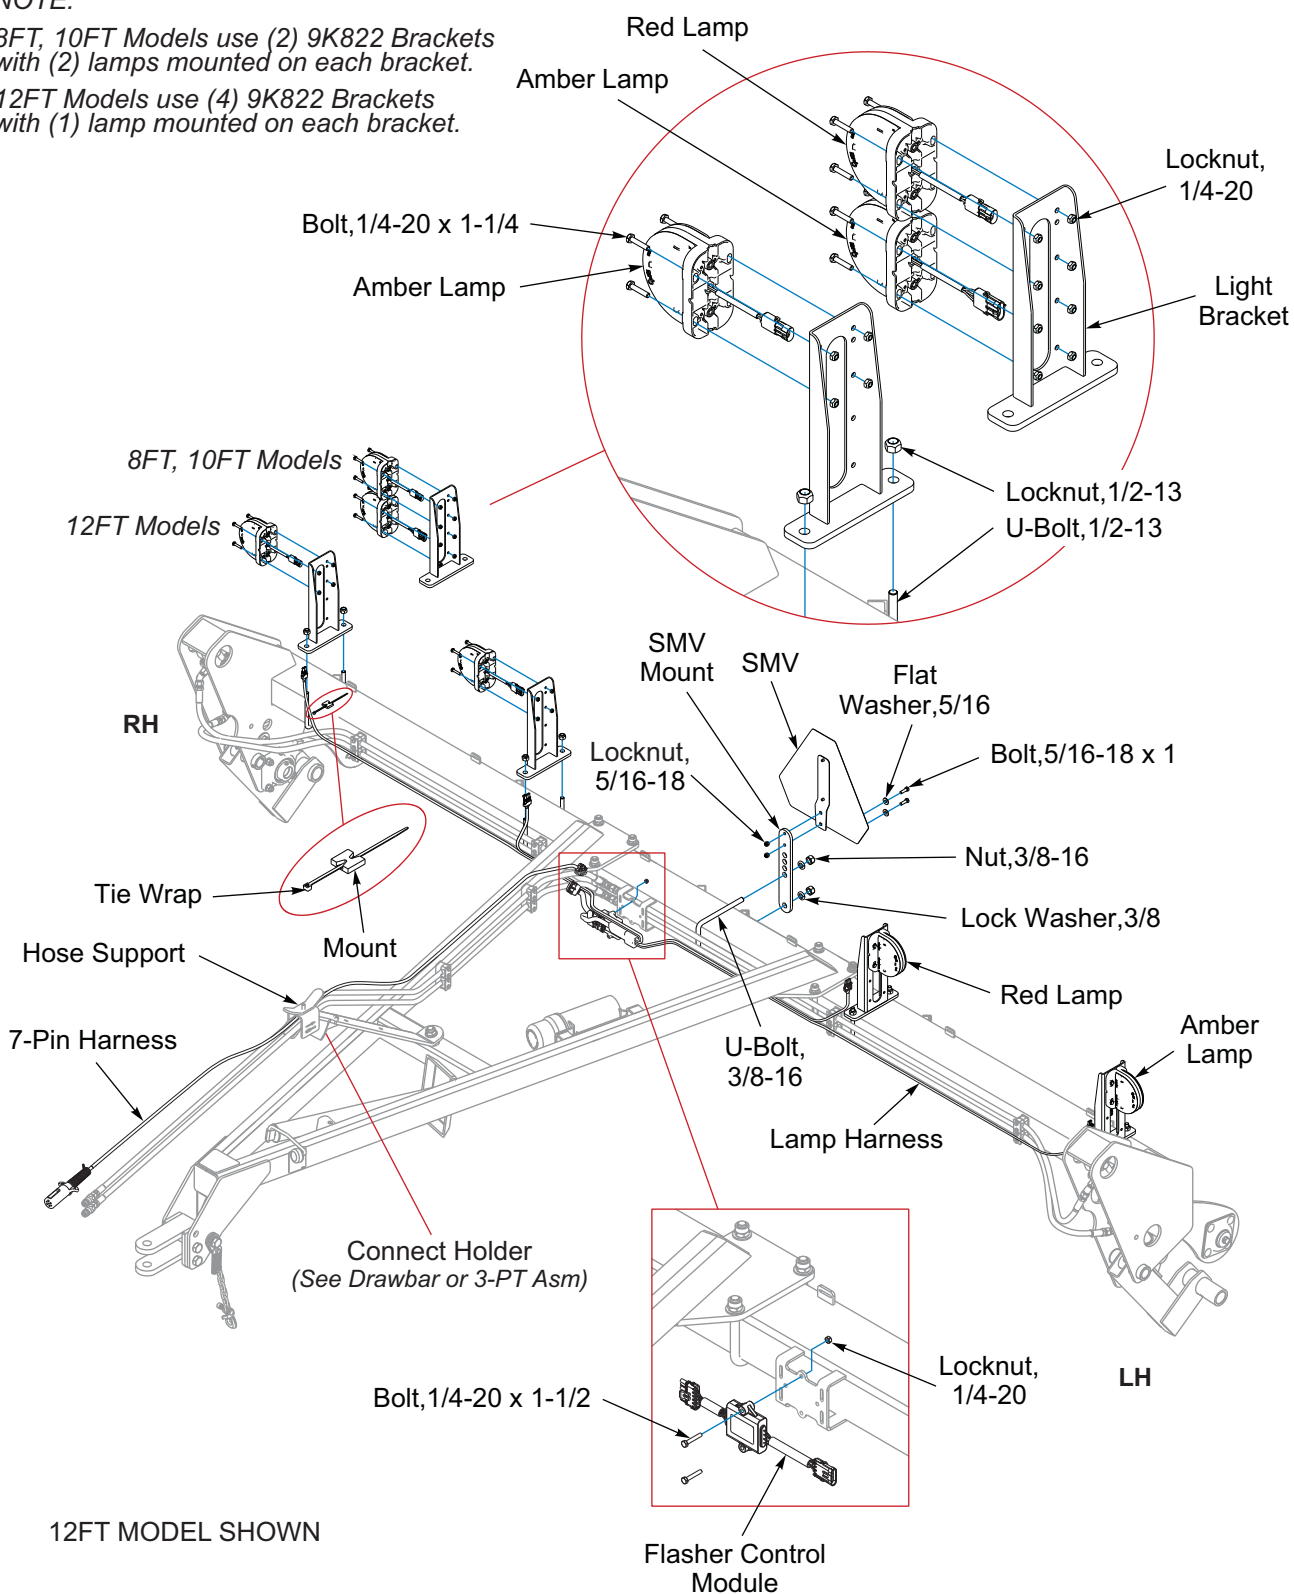

Figure 2-65: SD Pulverizer - Warning Lamp Installation (After 08/2025)
9. If not installed, attach the Connector Holder to the Drawbar Hose Support or 3-PT Hitch. See Figure 2-65.